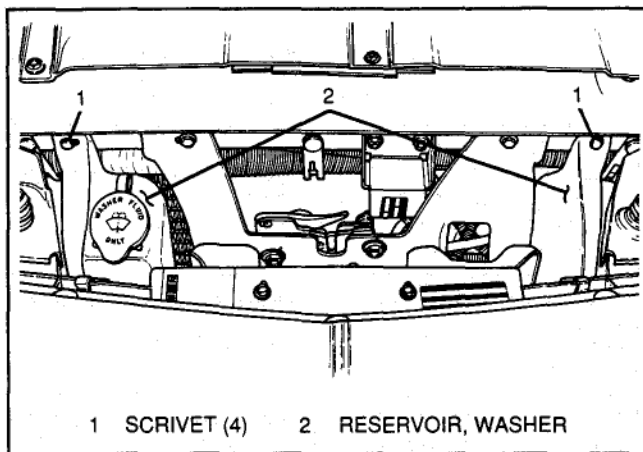

Figure 7 – Washer Reservoir (Top Front View)
Figures 7 and 8
2. Two scrivenets (1, Figure 7) from top of washer reservoir (2).
7. Two scrivenets (1) from bottom of washer reservoir.
3. Washer reservoir with 2 scrivenets (1, Figure 7) at bottom of reservoir.
7. Two scrivenets (1) at top of washer reservoir.